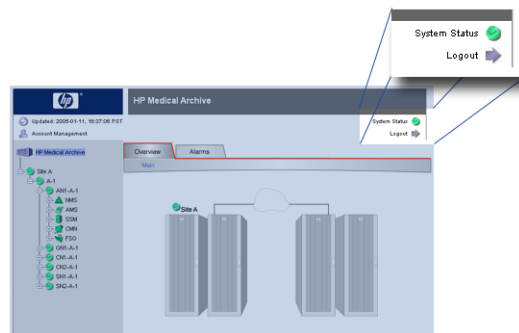

Figure 2: Location of the Logout Button
1. Click on the **Account Management**  button in the top left of the Header frame (Figure 2 on page 7).